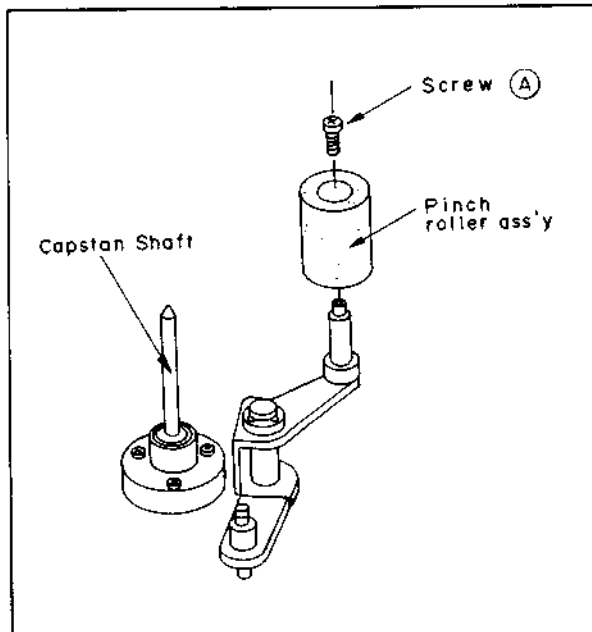

Fig. 4-34
Refer to Fig. 4-34. Take out screw (A) and remove the pinch roller assembly.